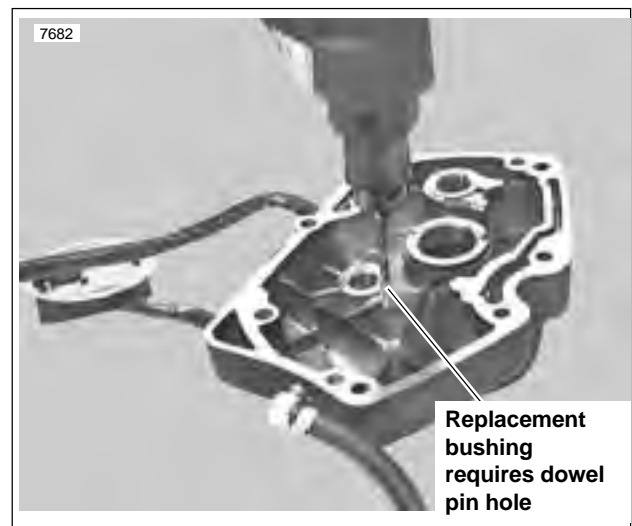

Figure 3-106. Drilling Dowel Pin Hole
2. Although the original pinion shaft bushing is not “pinned,” the replacement bushing must be secured, from possible rotation within the cover bore, by installation of a dowel pin. See Figure 3-106. Drill a No. 31 hole, 0.281 in. (7.137 mm) deep, at top side of boss (side toward top of gearcase cover), centering the drill bit on the cover bore circle (hole is drilled half in bushing OD and half in cover bore ID).